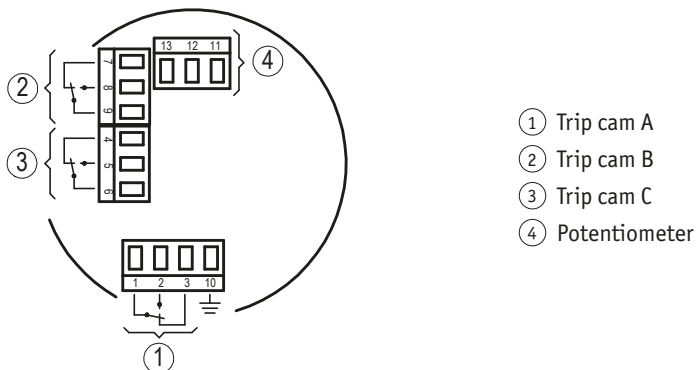

Fig. 5: Pin connection without Instrument transformer
- Connect strands to the clip terminals (Fig. 5 and Fig. 7).